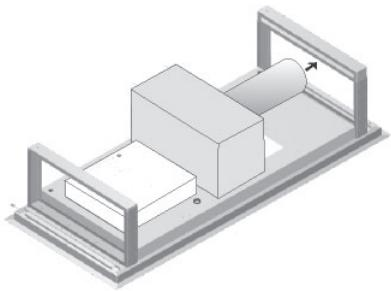

FIG.12
1. Hood is shipped in the horizontal duct discharge position and is ready to be installed (Fig.12).